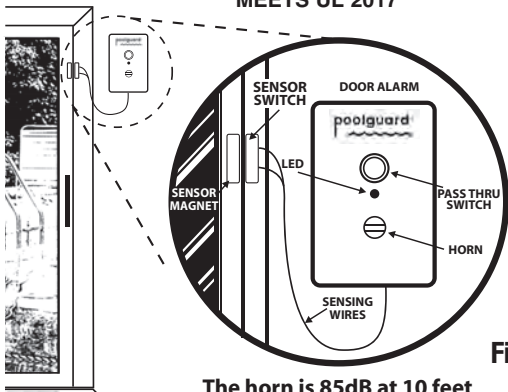

Figure 1
2. INSTALLING POOLGUARD DOOR ALARM (FIGS. 1 & 2)
- D. Install the Sensors Vertically (as shown in Figure 1) or Horizontally. Maximum space between sensors is 1+1/4". IMPORTANT: If you install the sensors Horizontally at the top of a SLIDING door, spacing between the sensors needs to be between 1" and 1+1/4".
4. OPERATING YOUR DOOR ALARM (FIG. 1)